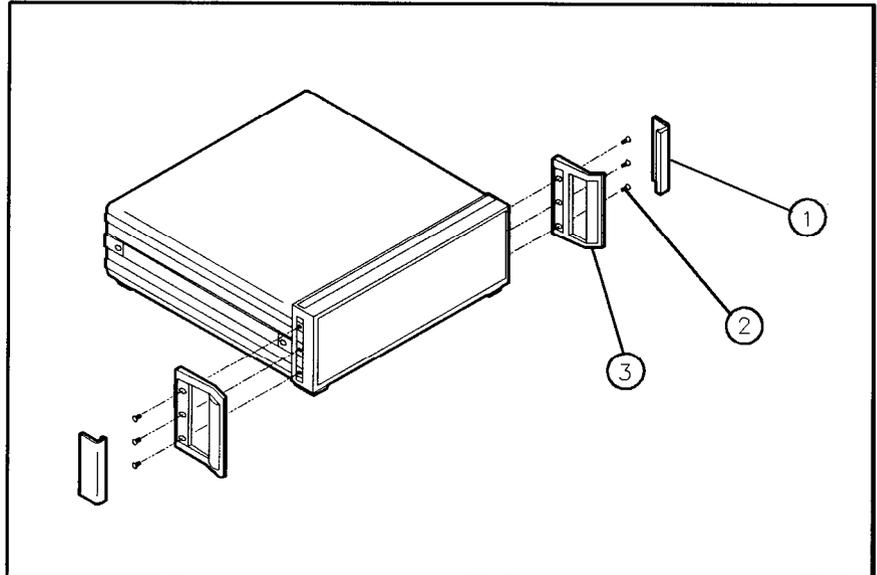

Figure 2-3. Removing the Handles and Trim
1. Remove the front-handle trim from each side of the RF and IF-Display sections. See ① of Figure 2-3.